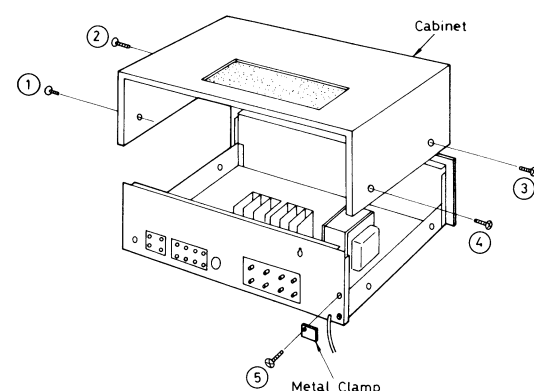

Fig. 1
1. Remove the four screws [fig. 1: ①~④] at the left and right sides of the cabinet.
2. Loosen the chassis screw [fig. 1: ⑤] at the right side of the rear panel.